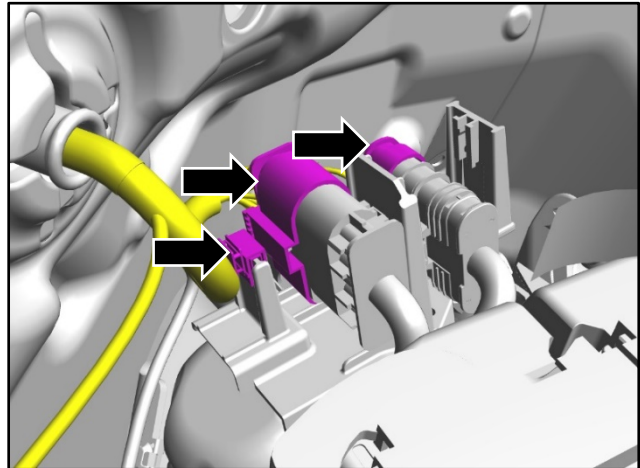

**Figure 17**
8. Connect the electrical connector (refer to Figure 17).